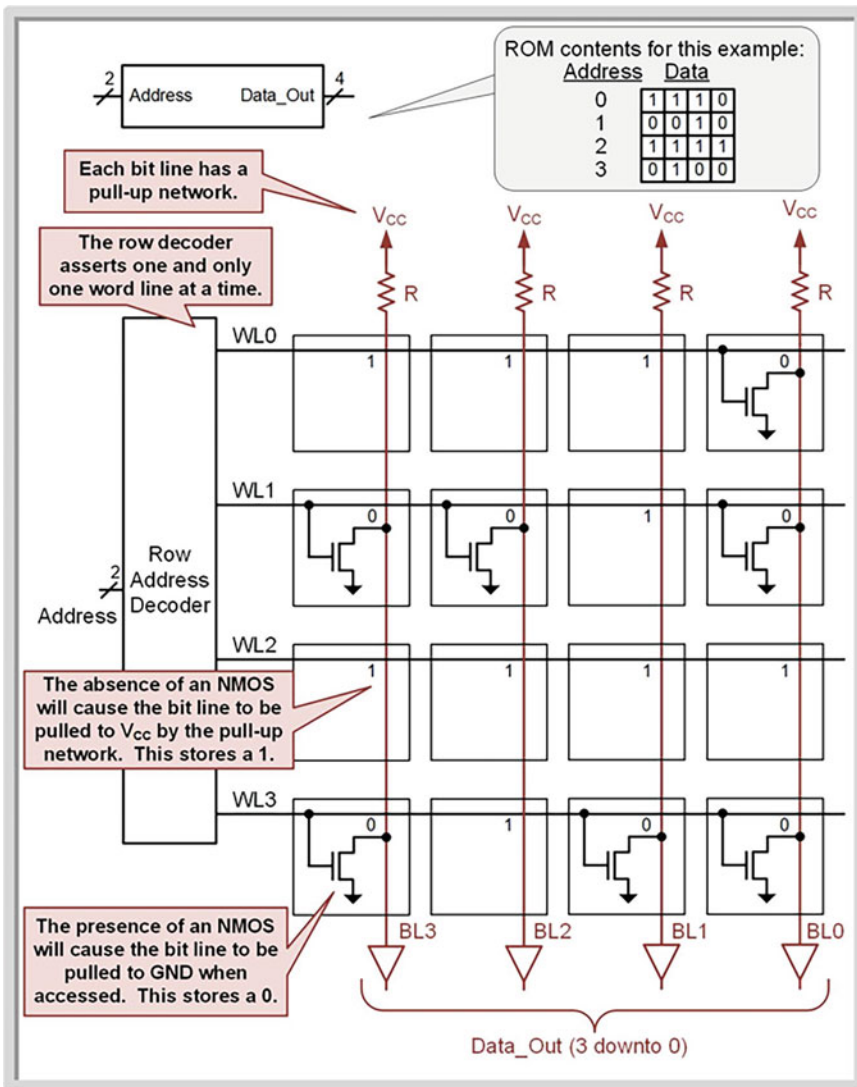

Fig. 2.43
This section describes the basic architecture of a memory array. To begin, we will look at a simple non-volatile ROM array. Figure 2.43 shows the basic architecture of a 4×4 ROM. An address decoder is used to access individual data words within the memory system. The address decoder asserts one and only one *word line* (WL) for each unique binary address that is present on its input. This operation is identical to a binary-to-one-hot decoder. For an n -bit address, the decoder can access 2^n , or M words in memory. The word lines historically run horizontally across the memory array; thus, they are often called *row lines* and the word line decoder is often called the *row decoder*. *Bit lines* (BL) run perpendicular to the word lines in order to provide individual bit storage access at the intersection of the bit and word lines. These lines typically run vertically through the memory array; thus, they are often called *column lines*. The output of the memory system (i.e., Data_Out) is obtained by providing an address and then reading the word from buffered versions of the bit lines. When a system provides individual bit access to a row, or access to multiple data words sharing a row line, a column decoder is used to route the appropriate bit line(s) to the data out port.